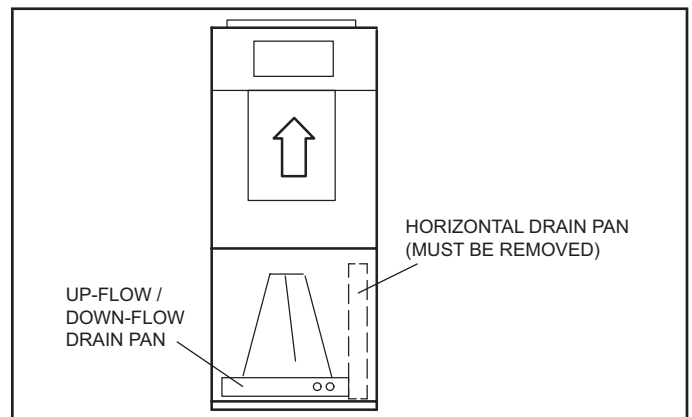

FIGURE 1. Upflow Configuration
- 4 - After removing the horizontal drain pan, place the unit in the desired location. Set unit so that it is level. Connect return and supply air plenums as required using sheet metal screws as illustrated in figure 1.